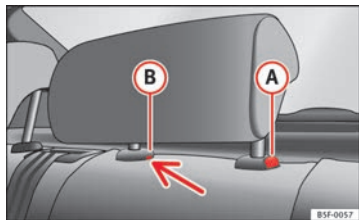

Fig. 74 Rear centre head restraint: release point
- To set the head restraint lower down, press the **(A)** ⇒ Fig. 74 button and move it downwards.
- Press the **(A)** ⇒ Fig. 74 button while at the same time removing the head restraint from the backrest ⇒ ⚠.